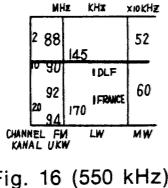

Fig. 16 (550 kHz)
| (4) | " | 550 kHz | 550 kHz [Fig. 16] | " | L ₁₆ (OSC Coil) (* 1)L ₁₃ (ANT Coil) |